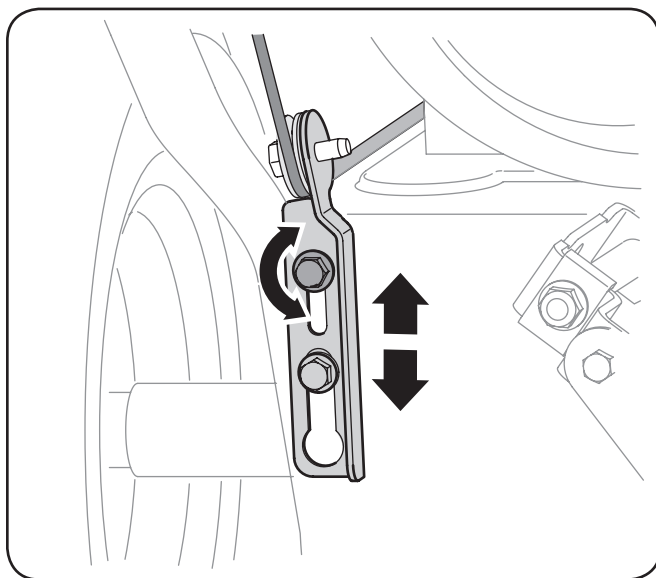

Figure 3-31
4. Allow the auger to remain engaged for approximately ten (10) seconds before releasing the auger control. Repeat this several times.
8. Position the bracket upward to provide more slack (or downward to increase cable tension). See Figure 3-31.